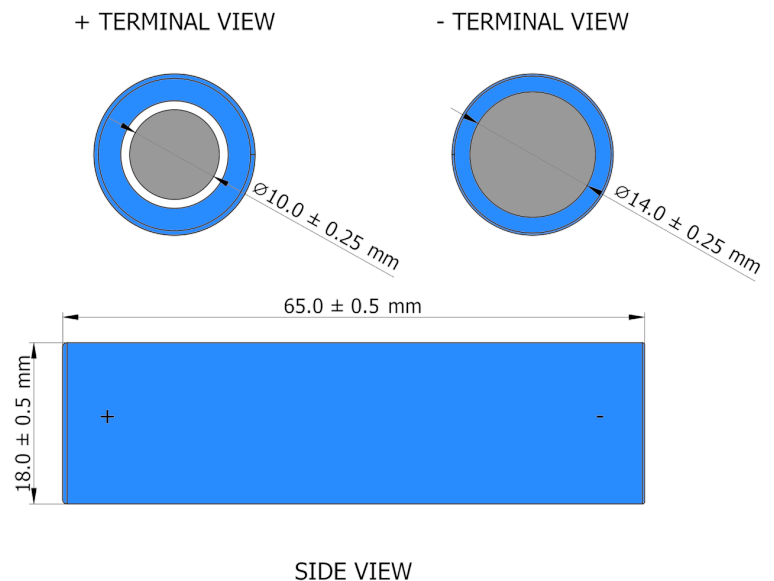

Figure 1: 2500mAh Battery Drawing & Dimensions
1.1 Outline Dimensions: See attached drawing, Figure 1, for dimensions.